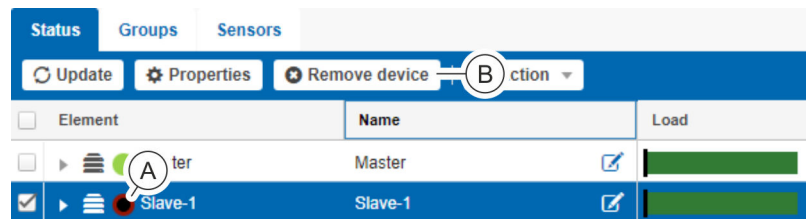

Fig. 100: “Status” menu – “Status” tab
2. Select the desired slave PDU in the “Status” tab (Fig. 100/Ⓐ).
3. Click the “Remove device” button (Fig. 100/Ⓑ).